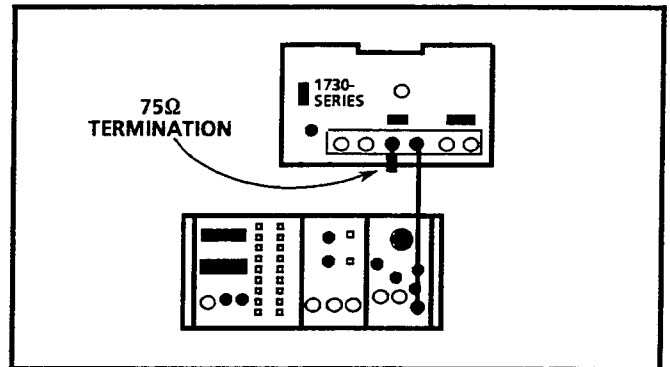

Fig. 5-9. Equipment connections for CH-B flatness checks.
- a. Connect the sine wave generator signal output to the CH-B INPUT. See Fig. 5-9.